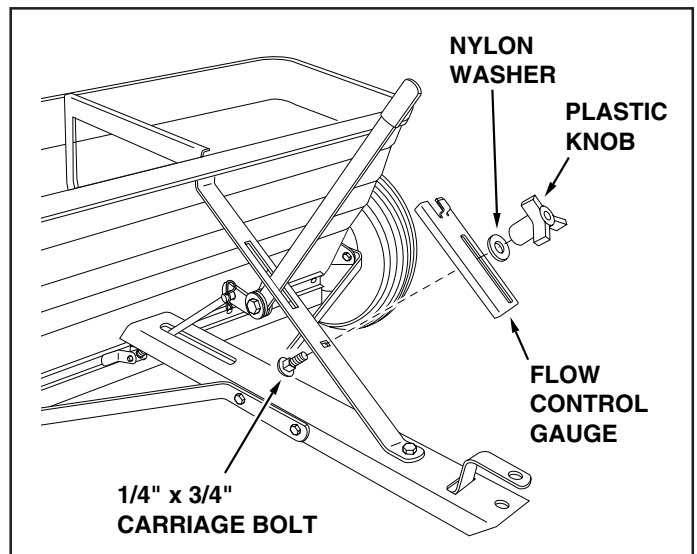

FIGURE 6
13. Assemble the flow control gauge to the hopper brace using the 1/4" x 3/4" carriage bolt, a nylon washer and the plastic knob. See figure 6.